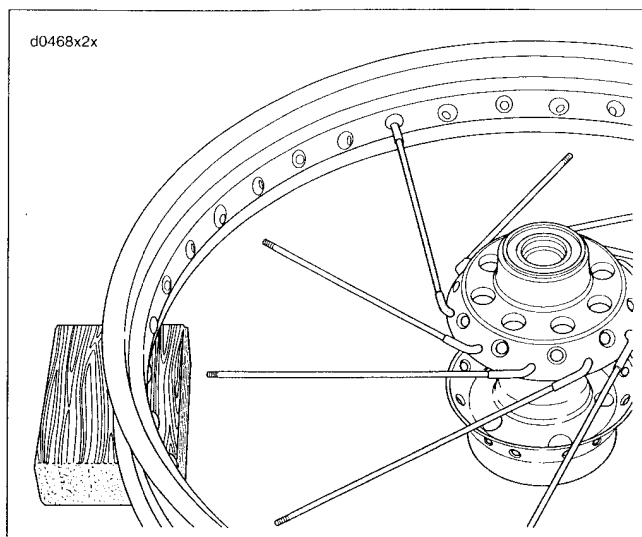

Figure 2-43.
3. See Figure 2-43. Using any **lower** row spoke, place the first spoke into the rim hole, angled to correctly accept the spoke, on the upper half of the rim centerline.